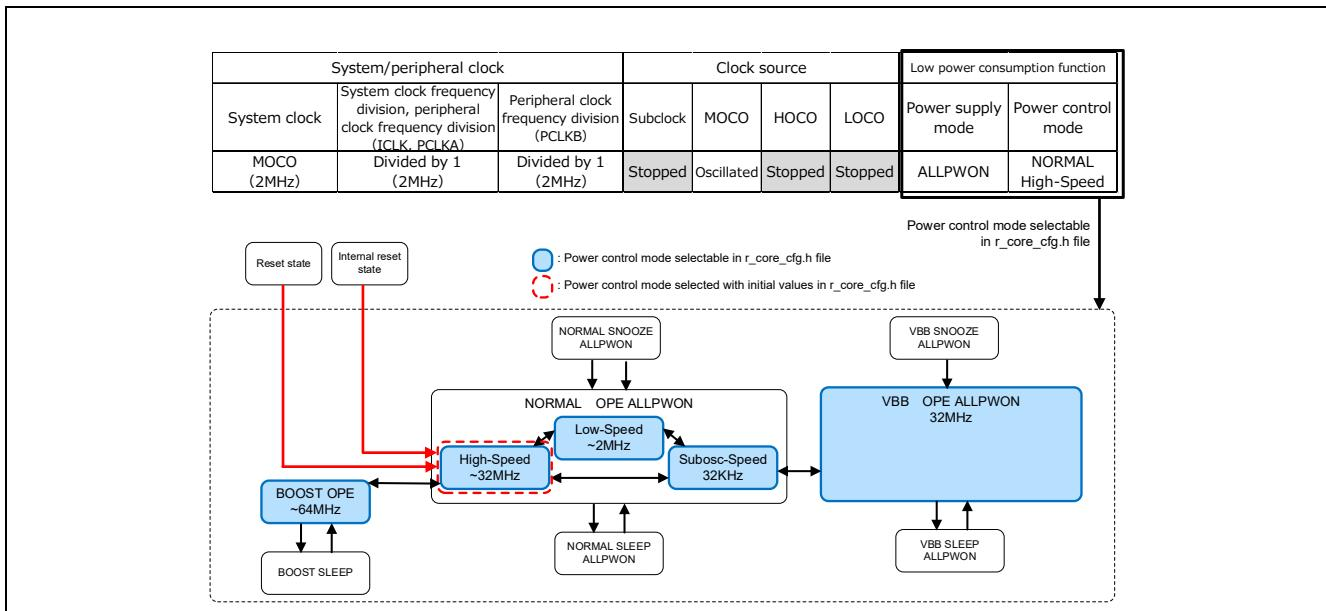

Figure 6-3 Clock and Power Control Modes that can be Selected in `r_core_cfg.h`
- Definition values: For the definition names and values, see section 6.4.1, Clock Definitions. Power control modes that can be selected as the mode on start of operation, and the clock/power control mode state selected by an initial value, appear in Figure 6-3.